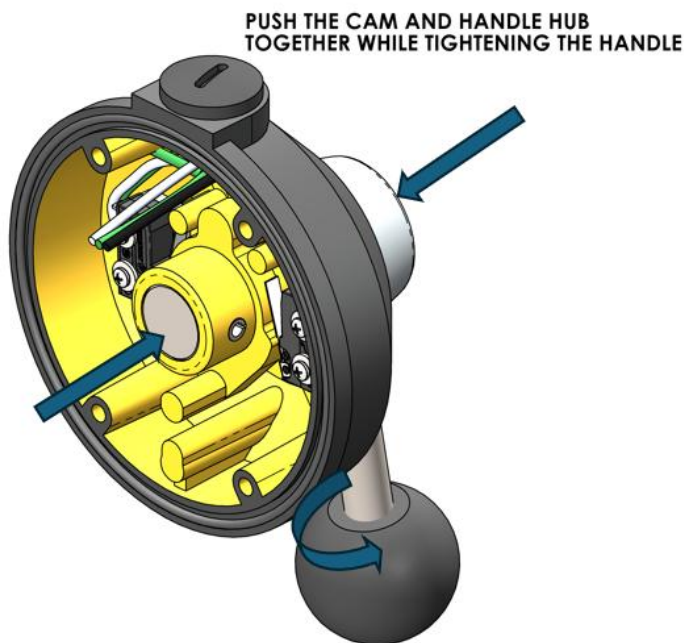

Figure 28: Installing cam assembly into jog
20. Put light pressure on the cam shaft and the handle hub pushing the two together to remove any axial play on the cam shaft assembly as shown in Figure 28.
21. Using the vise grips and brass shim stock as done in step 8, tighten the handle shaft secure onto the hub pushing the handle hub and cam shaft together at the same time as shown in Figure 28.